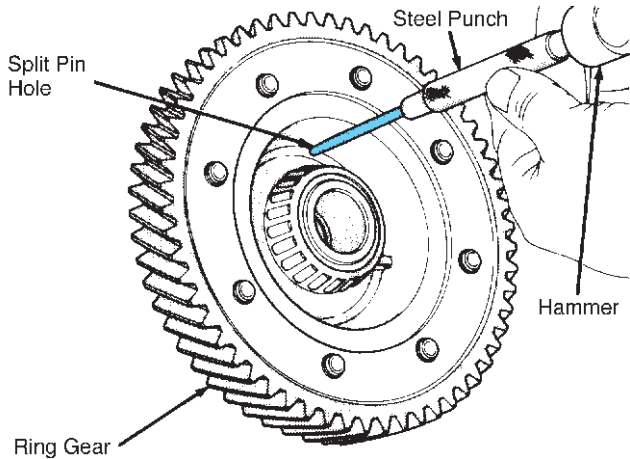

FIGURE 8-78 The first disassembly step for most differentials is to remove the pinion shaft lock pin or screw. (Courtesy of DaimlerChrysler Corporation)
1. Remove the pinion shaft lock pin (Figure 8-78).